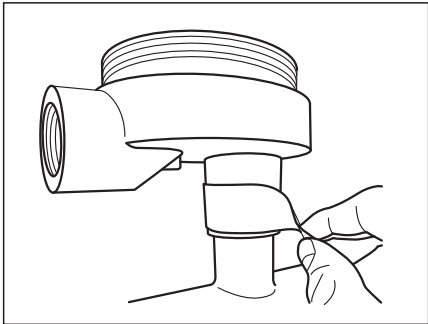
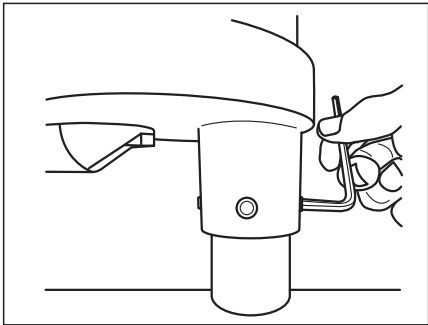

Fig.7.16
Fig.7.17
- ⑥ Remove caution label (sticker) and loosen hex-socket head screws (4 places). (Fig.7.16, Fig.7.17)
- ⑦ Rotate terminal box without exerting excessive force onto sensor cables.
- ⑧ After rotating, reassemble terminal box in reverse procedure.